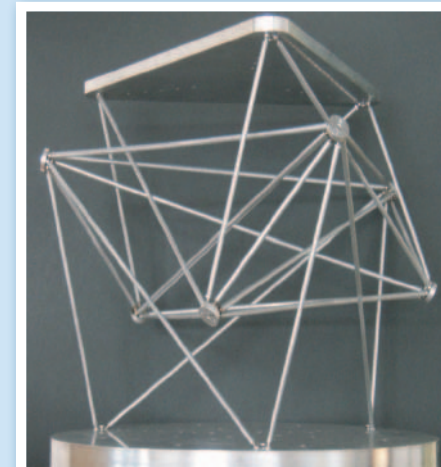

Fig.4 Vibration isolation structure. Picture: © Dr. Forrester
- Vibration isolation structures (Alexander Forrester – Fig. 4)